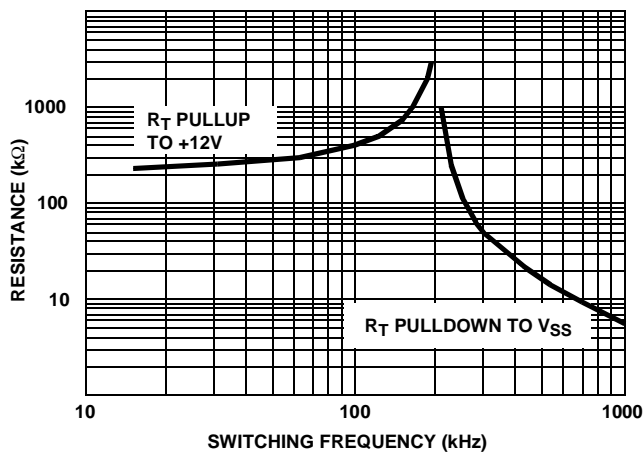

FIGURE 1. RT RESISTANCE vs FREQUENCY
**Electrical Specifications** Recommended Operating Conditions, Unless Otherwise Noted. Refer to Figures 1, 2 and 3
**Electrical Specifications** Recommended Operating Conditions, Unless Otherwise Noted. Refer to Figures 1, 2 and 3 (Continued)
The HIP6020 monitors and precisely controls 4 output voltage levels (Refer to Figures 1, 2, and 3). It is designed for